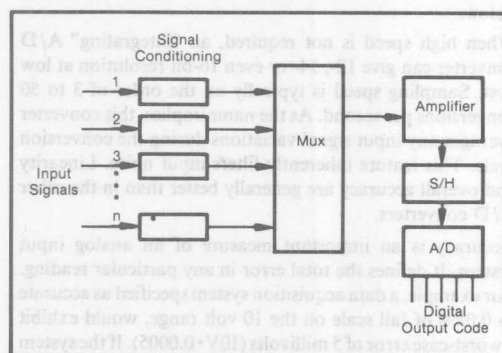
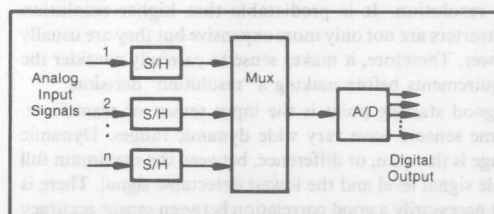

FIGURE 4.2. A Complete Analog Input Subsystem.
FIGURE 4.3. Simultaneous Sample & Hold Systems.
**Multiplexers** - The Multiplexer (Mux) shown in Figure 4.2 is simply a switch arrangement that allows many input channels to be serviced by one amplifier and A/D. Software can control these switches to select any one channel for processing at a given time. This approach offers considerable cost savings over separate amplifiers and A/D's. Since the amplifier and A/D are being shared, the speed of analog acquisition will be reduced. To a first approximation, the rated "speed" of the amplifier and A/D will be divided by the number of input channels serviced. "Throughput" is often defined as the "single-channel speed" multiplied by the number of channels.
**Time Multiplexing** - The system described in Figure 4.2 shares the amplifier, S/H and A/D converter between the various input channels. The user selects the desired sample rate to fit the given application. If each channel is to be read
The simultaneous sample/hold architecture is ideal for applications in which the phase and time relationships of multiple input channels are critical to the given investigation. For example, if the system in Figure 4.2 were sequentially scanning four analog inputs at a throughput of 89K samples/second, the time elapsing between conversions would be 11.25 microseconds. About 45 microseconds will be required to digitize all four channels. This represents a 162 degree phase shift between the first and fourth channel at a 10KHz signal frequency ( $45\mu s / 100\mu s \cdot 360$  deg). In contrast, the simultaneous sample/hold system in Figure 4.3 can capture all four channels within about 10 nanoseconds of each other, representing a phase shift of less than 0.04 degrees at 10KHz.